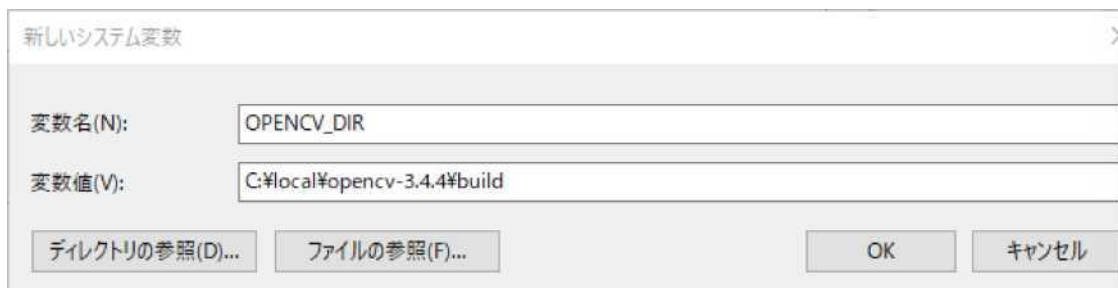

Fig. 5.10 New system variables
- (j) Click on New in the system environment variable, and set the variable name to "OPENCV\_DIR" and the value to "C:¥local¥opencv-3.4.4¥build" (Fig. 5.10).